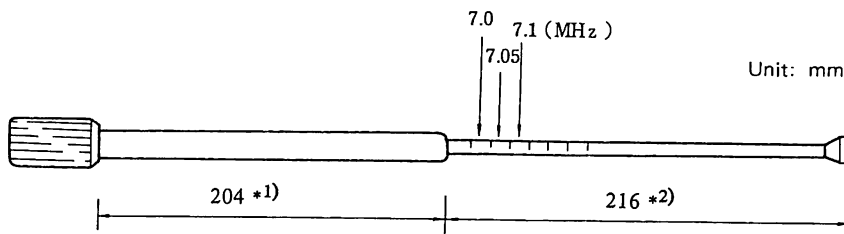

Figure 3.2.3 Radial Earth Element
- (1) The radial earth has a notched mark at the adjustable element, which is approximately calibrated with respect to the tune frequency, as shown in Figure 3.2.3, below.